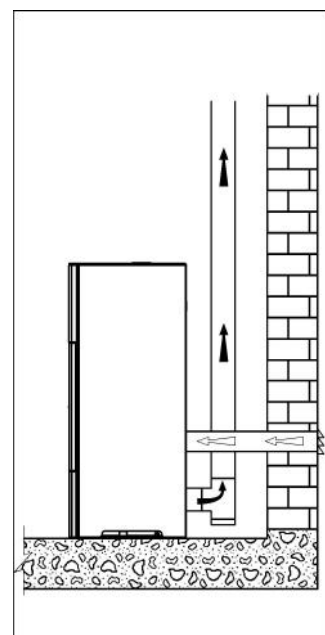

Fig. 5.6
- connect the stove combustion air inlet to the air inlet with a suitable pipe (Fig. 5.6).